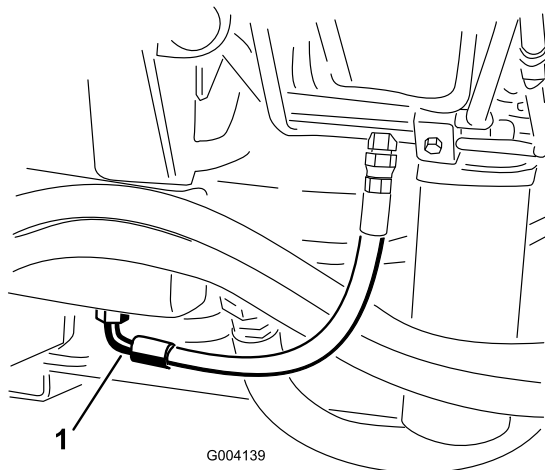

Figure 70
2. Place a large drain pan under the fitting secured to the bottom of the hydraulic-fluid reservoir (Figure 70).